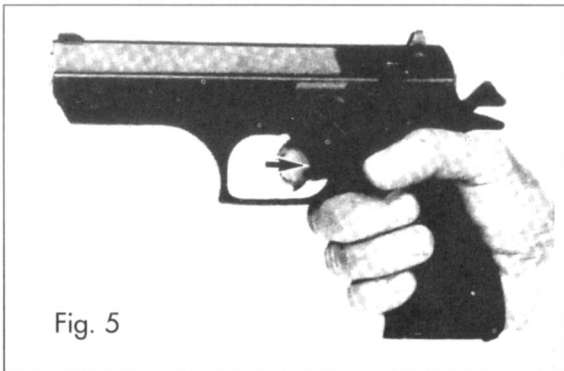

Fig. 5
5. Point the pistol in a safe direction and pull the trigger (Fig. 5).